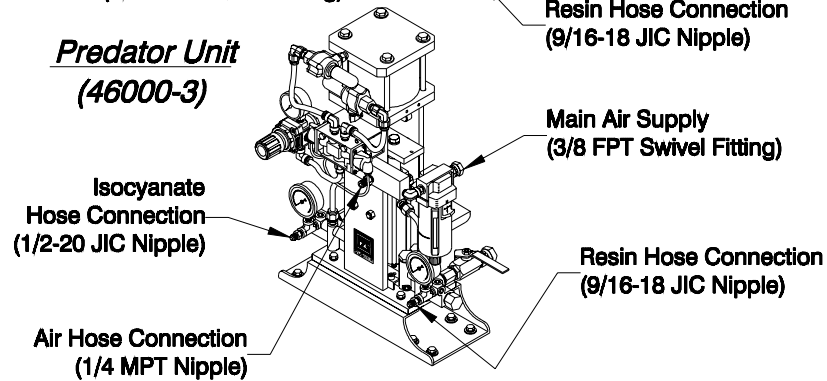

Figure 4. Hose Connection Locations
2. Connect the Main Air Supply to the machine. (See Figure 4)
3. Connect the Isocyanate and Resin Hose Assemblies to the machine. (See Figure 4)